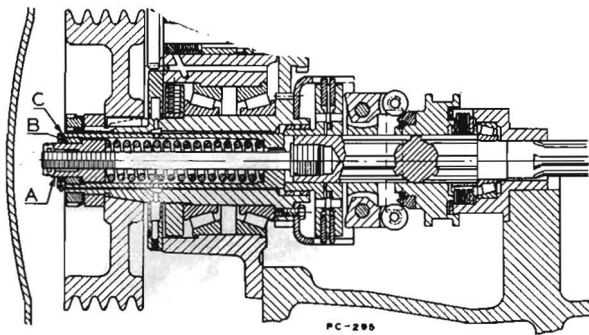

FIGURE 9
**Adjusting the Driving Clutch.** The clutch for these machines is self-compensating within certain limits, thereby eliminating the necessity for adjustment until the wear exceeds these limits. Nut "B" Fig. 9, regulates the allowance for the self-compensating effect, or wear; which is about .020" when the clutch is new or after it is adjusted.